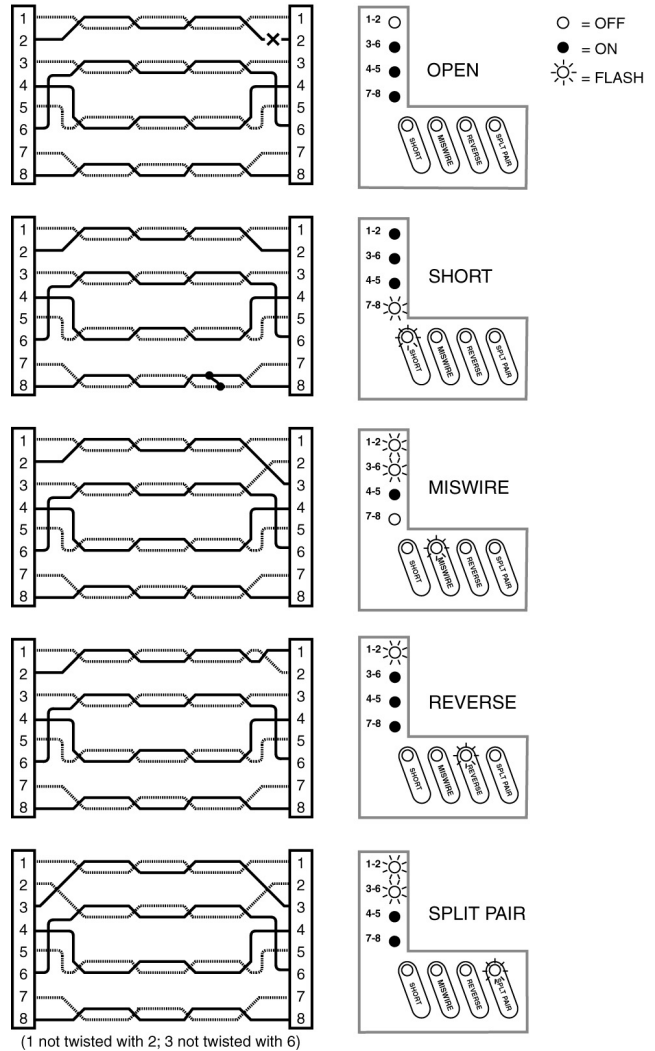

Figure 2
6.1. Definition of Errors (Refer to Figure 2)